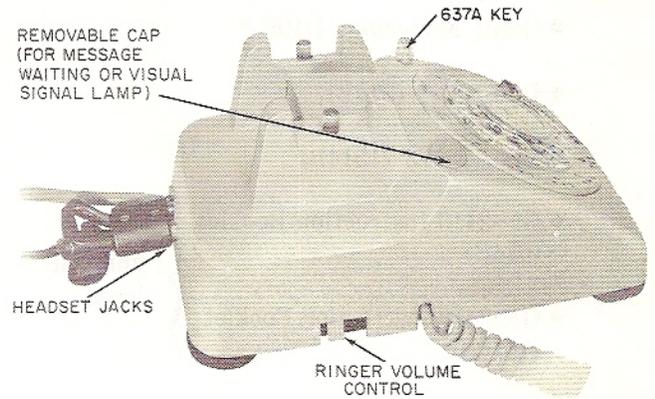

Fig. 1—514B Telephone Set
1.01 The 514B- and 1514B-type telephone sets (Fig. 1 and 2) are single line desk sets arranged for handset or headset operation.
OPERATING FEATURES (Fig. 1 and 2)
- (1) Remove housing from set.
- (2) Remove cap (Fig. 1) from housing by removing screw and clamp located inside housing assembly, discard cap.